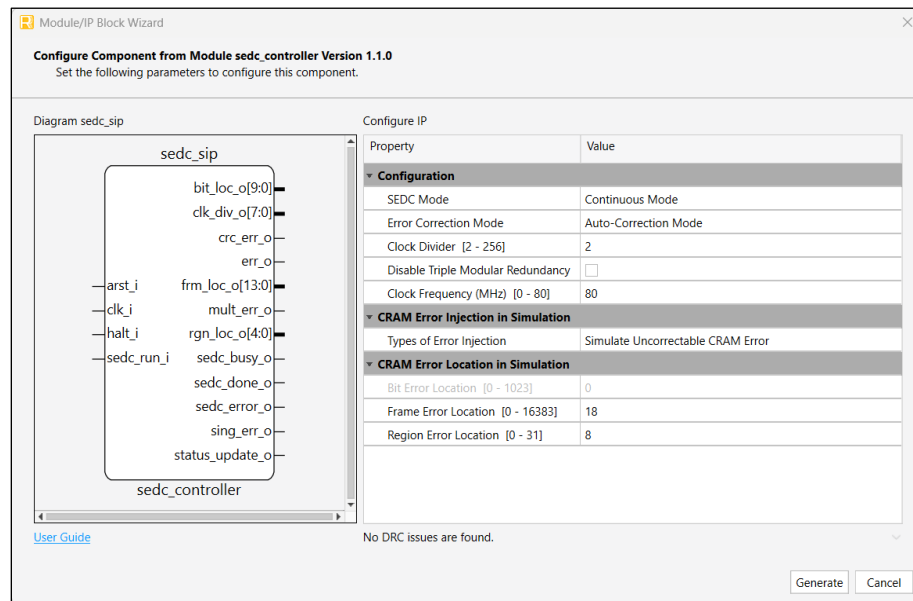

Figure 6.1. Simulation Setup in SEDC Controller IP GUI
1. Open the reference design project file (top.rdf) in the Lattice Radiant software, if not already open. The reference design file includes the pre-created simulation folder *sim_top* and the test bench *top_tf.v*. The pre-created simulation setup, selectable through the SEDC Controller IP graphical user interface (GUI), uses the **Simulate Uncorrectable CRAM Error** option, as shown in Figure 6.1. You can select other simulation options and regenerate the IP to enable the selected simulation option. You can also modify the initial test bench file *top_tf.v* if desired.